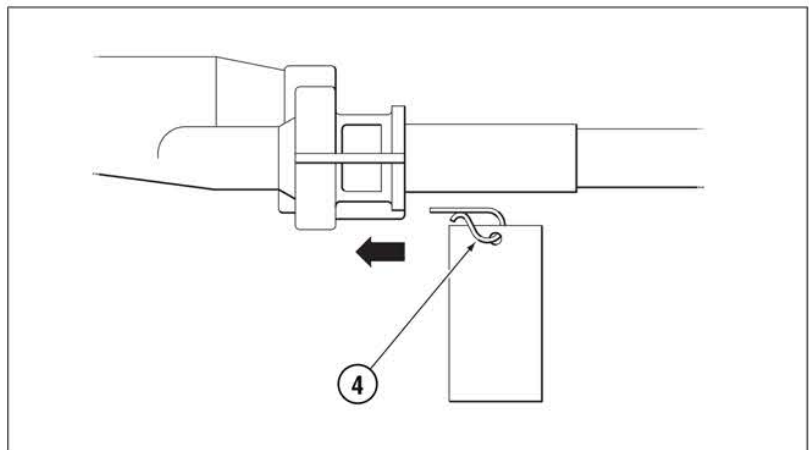

Figure 3.
STEP 3. Replace the pin as shown in Figure 3, making sure that it is fully seated. **DO NOT REMOVE TAG FROM PIN.** This tag must be left in place for vessel safety during future steering maintenance.
To remove the cable from the helm pull pin (Item 4, figure 3) and follow the instructions on the tag pictured below.